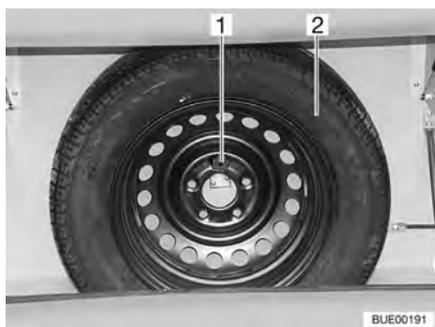

Fig. 222 Spare wheel support
The spare wheel support is fitted in the gas bottle compartment. The spare wheel (Fig. 222,2) is available for a surcharge.
- Undo bolt (Fig. 222,1).
- Remove the spare wheel (Fig. 222,2).